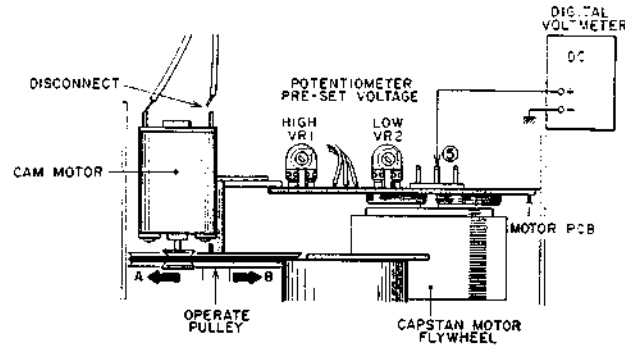

Fig. 4-4.
## 4-4. POTENTIOMETER PRE-SET VOLTAGE ADJUSTMENT (Refer to fig. 4-4 to 4-5)
- b. Connect the digital voltmeter as shown in fig. 4-4.
- c. With power ON, adjust VR2 so that the voltage reading will be 1.15V (DC).